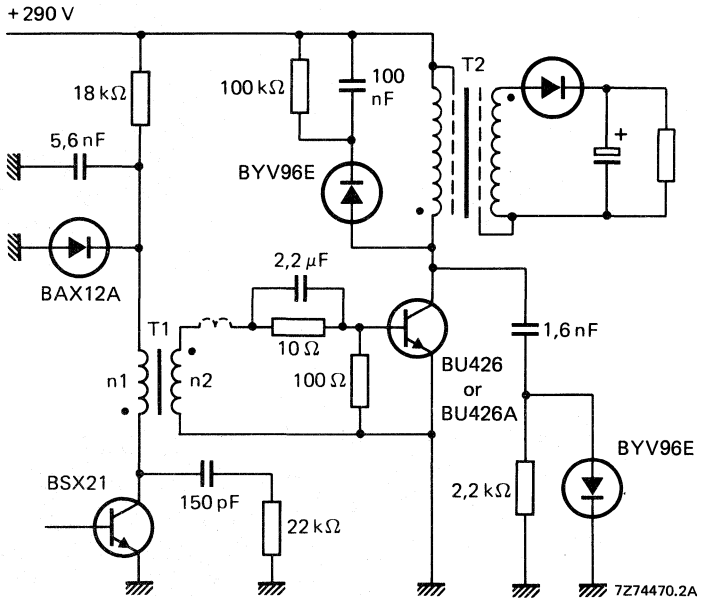

Fig. 17 Practical output circuit of a flyback SMPS of BU426 or BU426A.
All these variables influence the collector dissipation, so that a simple presentation of the design information is only possible if the information is restricted to the main application area of the relevant transistor type. Therefore, as the BU426 or BU426A will mainly be used in flyback converters and the BU433 in forward SMPS, the information of Figs 17 up to 22 is based on these applications:
To ensure thermal stability minimum value of T_{amb} in this equation is 40 °C. As indicated, the BU433 will mainly be used in (non-isolated) forward converters, where the turn-off losses are limited by the maximum collector emitter voltage (≈ 300 -350 V). The rate-of-rise of the voltage during turn-off must be below 1000 V/ μ s. Application of this transistor in low-power flyback converters is also possible, provided that the rate-of-rise is limited to 500 V/ μ s. For the BU426(A) a rate-of-rise of 1000 V/ μ s is permissible. Practical SMPS output circuits for an output power in the order of 180 W are given in Figs 17 and 20. At a collector current of 2,5 A and a base current of 0,25 A in these circuits the following turn-off times can be expected.